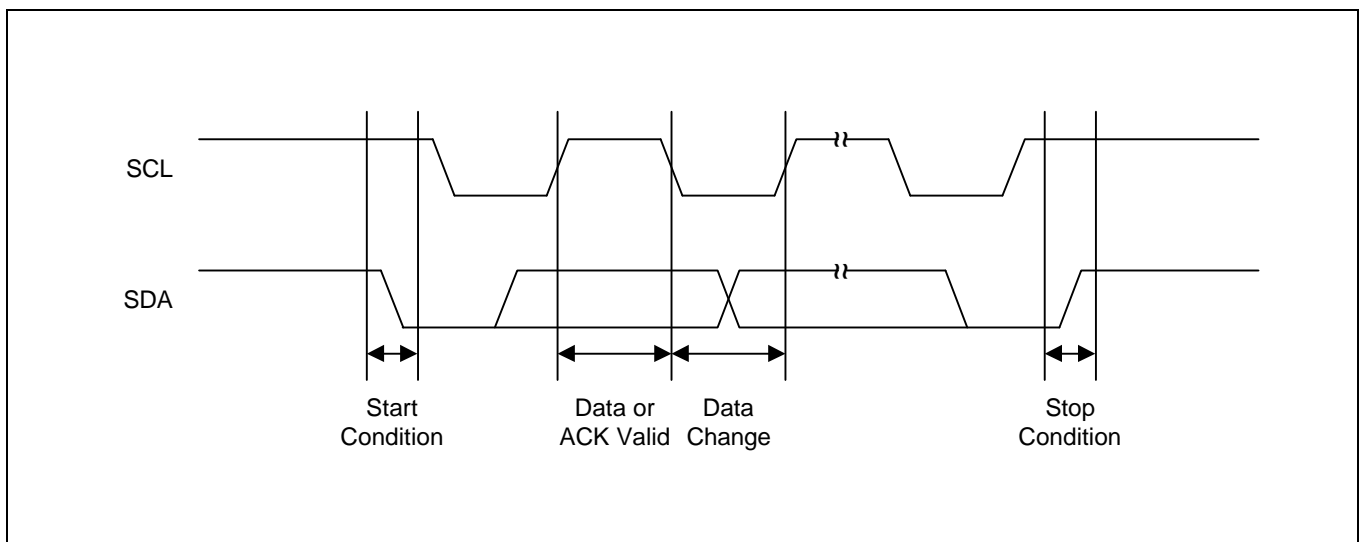

Figure 3-7. Data Transmission Sequence
- **Stop condition:** A stop condition is initiated by a Low-to-High transition of the SDA line while SCL remains High level. All bus operations must be completed by a stop condition (see Figure 3-7).